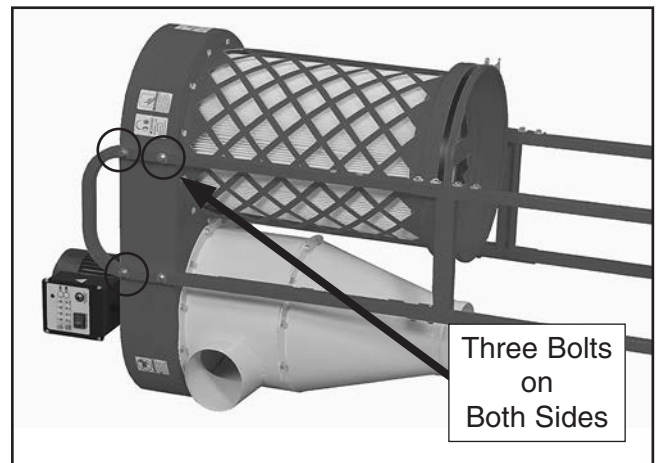

Figure 16. Dust collector and stand positioning.
6. Install the remaining (6) $\frac{5}{16}$ "-18 x $1\frac{1}{2}$ " hex bolts and (6) $\frac{5}{16}$ " flat washers, then tighten all hex bolts (see **Figure 16**).